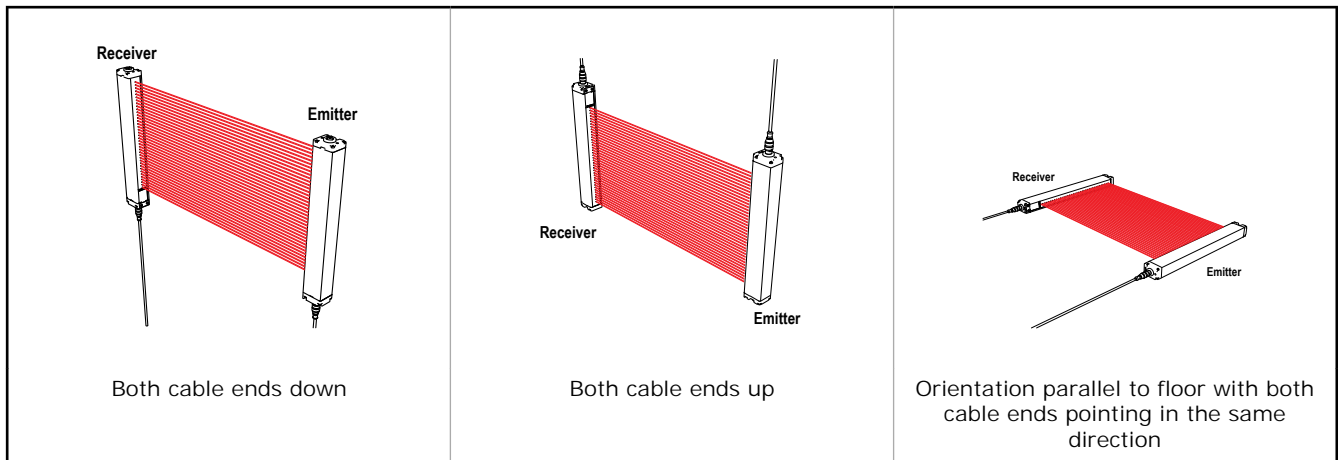

Figure 12. Examples of Correct Emitter/Receiver Orientation
Important: The connector ends of both sensors must point in the same direction (see Figure 12 on page 21). Loosely mount the brackets to the desired surface using the supplied M5 bolts and nuts, or user-supplied hardware. Brackets may face in or out, as desired.
3. Position the emitter and receiver in their brackets, as shown in Figure 12 on page 21. Loosely attach the front bracket plate to the bracket, at each end.
Important: The connector ends of both sensors must point in the same direction (see Figure 12 on page 21).